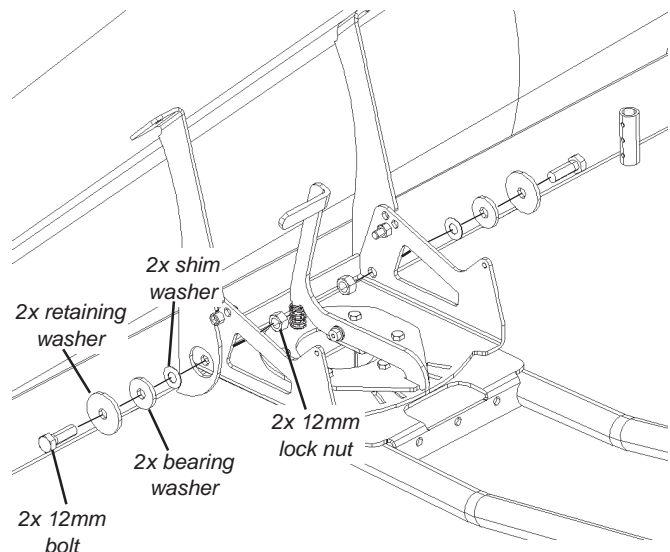

Figure 3 Attach Blade to Tube Base
3. Attach the wear bar to the plow blade as shown in figure 3. Place 10mm dia carriage bolts through each of the square holes in the wear bar, and through their respective holes on the blade. Terminate with a 10mm dia lock nut.
4. Attach the plow blade to the plow base as shown in figure 3. Run a 12mm dia bolt through the large retaining washer, bearing washer, shim washer, then through the plow blade and base. Terminate with a 12mm dia lock nut. Back off the torque if the plow blade doesn't rotate freely around the plow base.